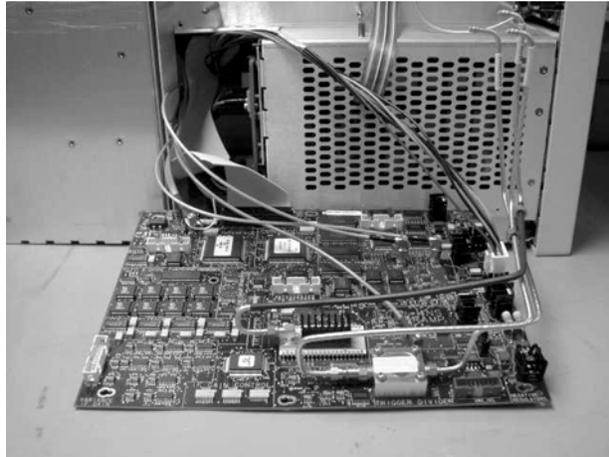

Figure 4-53. Removing the A13 Acquisition Board
- 6 Remove the board, as shown in Figure 4-53.